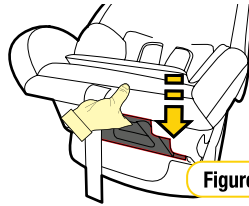

Figure 1
Step 1: Under the front of the restraint is a *GREY lever. Lift the lever to recline. (refer Figure 1) *Colour may vary